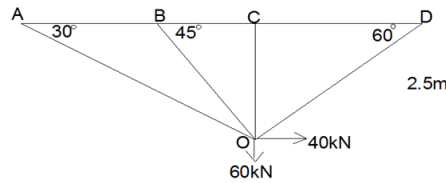

Figure 3
3. (a) Analyse the pin jointed truss frame shown in following Figure 3 by stiffness matrix Assume cross sectional area of each member 1000mm^2 , $E=2 \times 10^5 \text{N/mm}^2$ [7M]